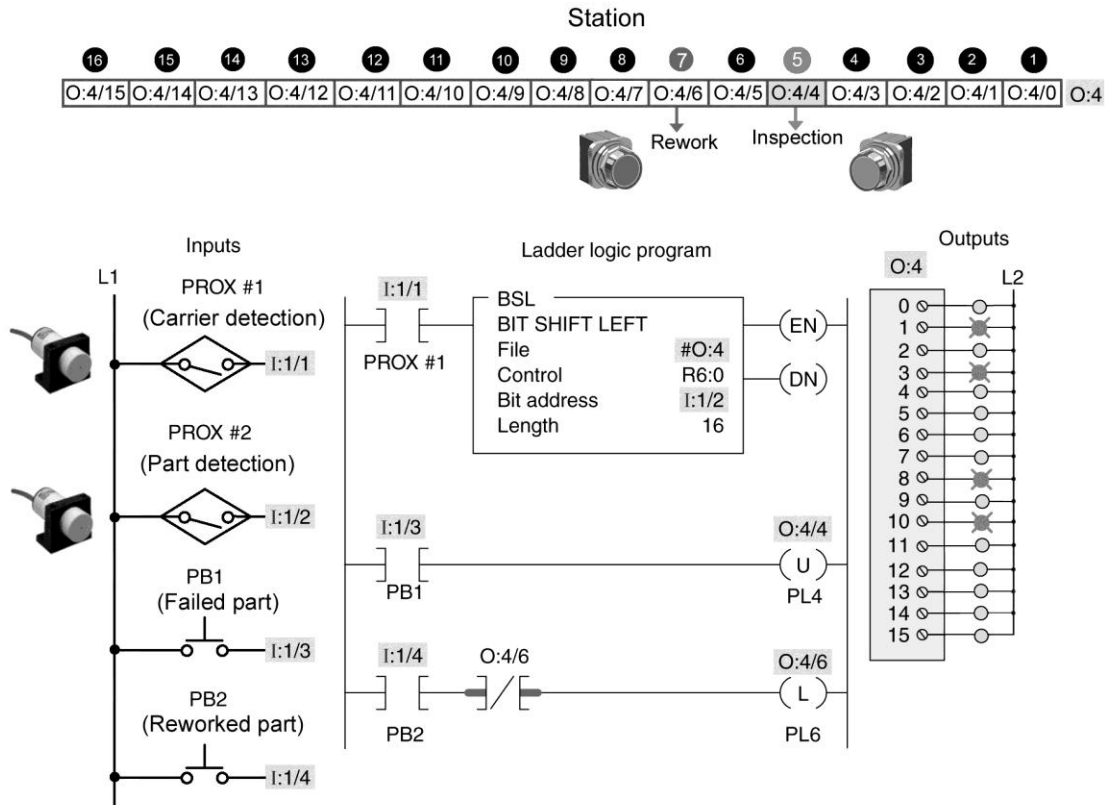

Figure 12-31 Carrier tracking program for assignment 14.
14) The carrier tracking program of Figure 12-31 is described in the text. Prepare an I/O connection diagram and ladder logic program that will simulate its operation. Use addresses that apply to your PLC installation. Enter the program into the PLC, and verify its operation.